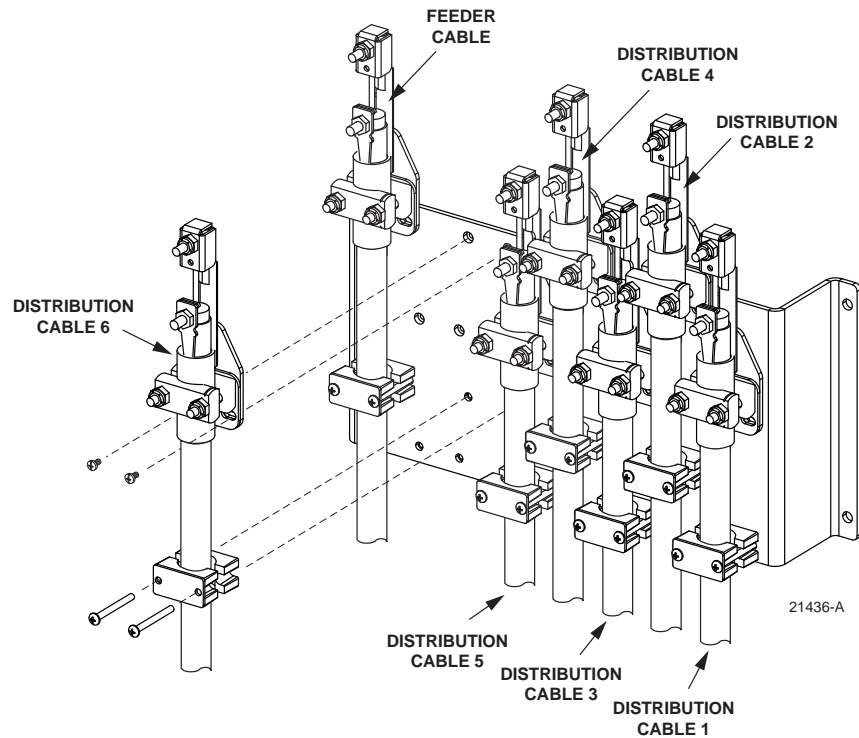

Figure 20. Secure Distribution Cable to Cable Bracket
3. Locate the cable clamping position specified for the next distribution cable as shown in Figure 20. (A different clamping position than shown in Figure 20 may be used if required.)